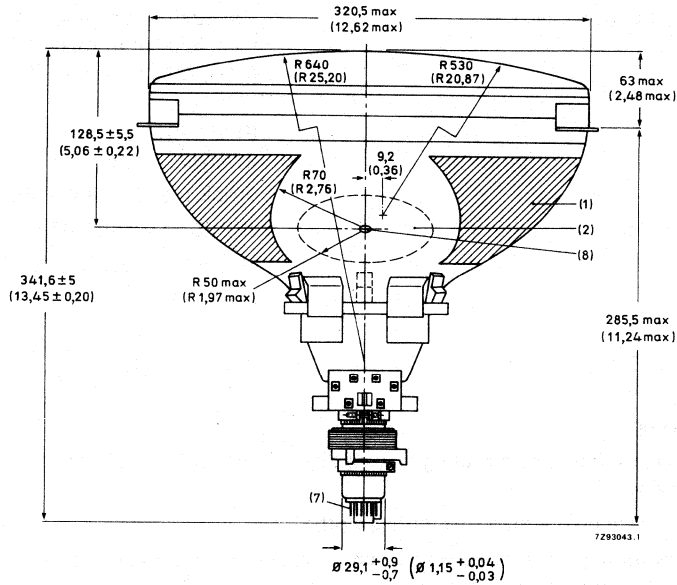

Fig. 4a.
**MECHANICAL DATA** see also the figures 4a to 10 inclusive